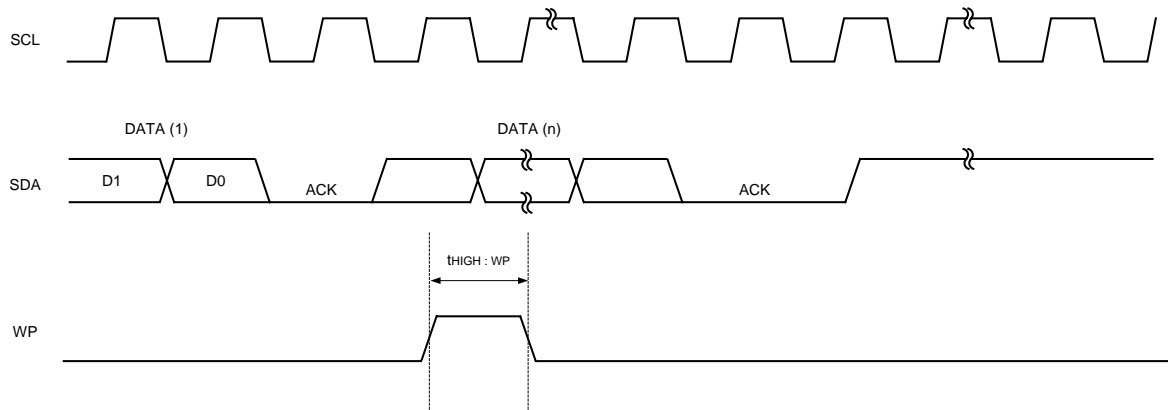

Fig.10(b) WP TIMING OF THE WRITE CANCEL OPERATION
- For the WRITE operation, WP must be "LOW" during the period of time from the rising edge of the clock which takes in D0 of first byte until the end of  $t_{WR}$ . (See Fig.10(a))